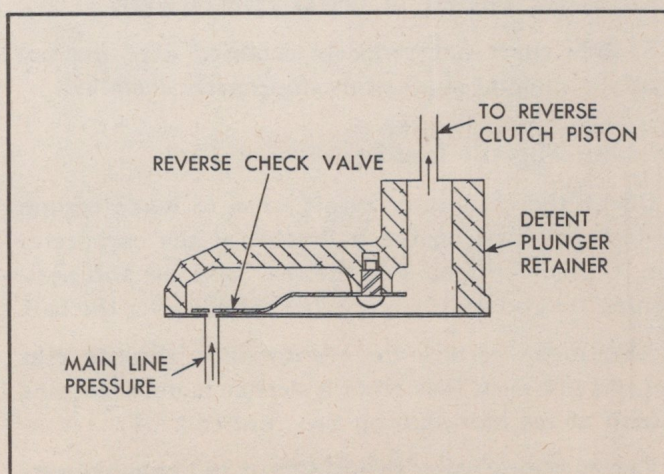

Fig. 324—Reverse Check Valve in Detent Plunger Housing
4. Examine reverse check valve located in detent plunger retainer (Fig. 324). Valve should be firmly